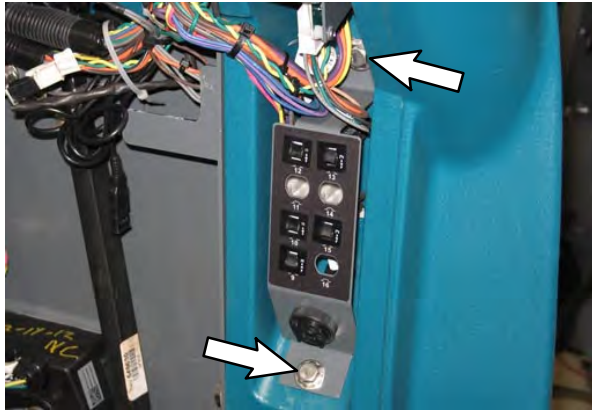

FIG. 24
- Remove the M8 hex screw securing the bottom of the circuit breaker bracket to the machine. (Fig. 24)
- Loosen the M8 hex screw securing the top of the circuit breaker bracket to the machine. (Fig. 24)
- Pull circuit breaker bracket out far enough to remove/install circuit breakers and access the main wire harness connectors located behind the bracket. (Fig. 24)